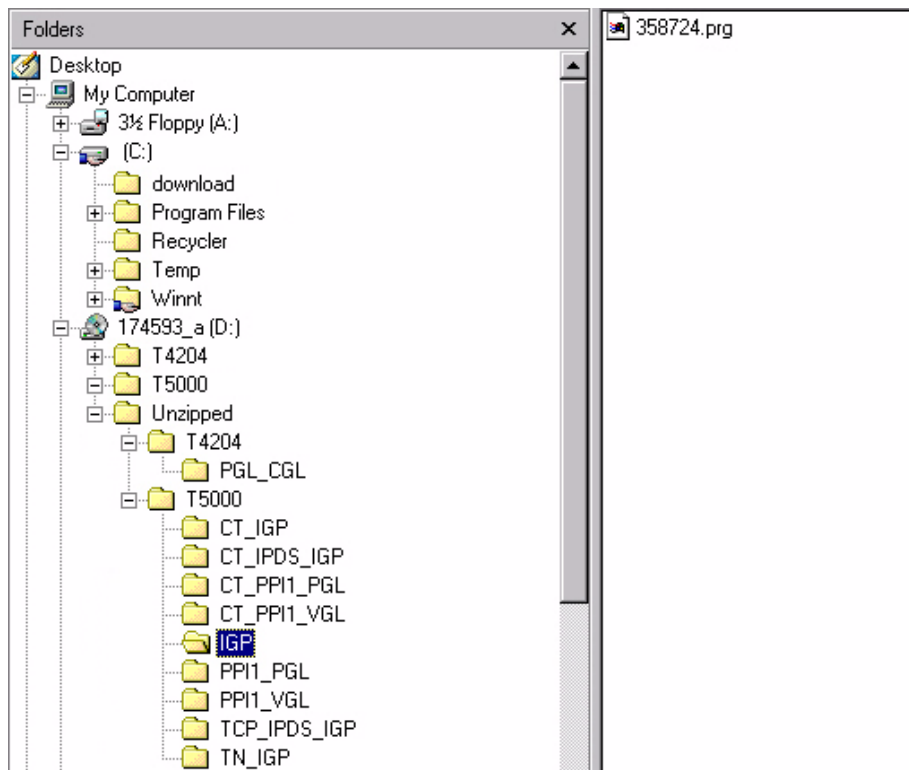

Figure 3. Navigating to the Appropriate Emulation File on the CD
8. Using Windows Explorer, navigate to the appropriate file on the CD (using the Unzipped directory) based on the printer model number and desired emulation, e.g., Unzipped ▶ T5000 ▶ IGP. (See Figure 3.)